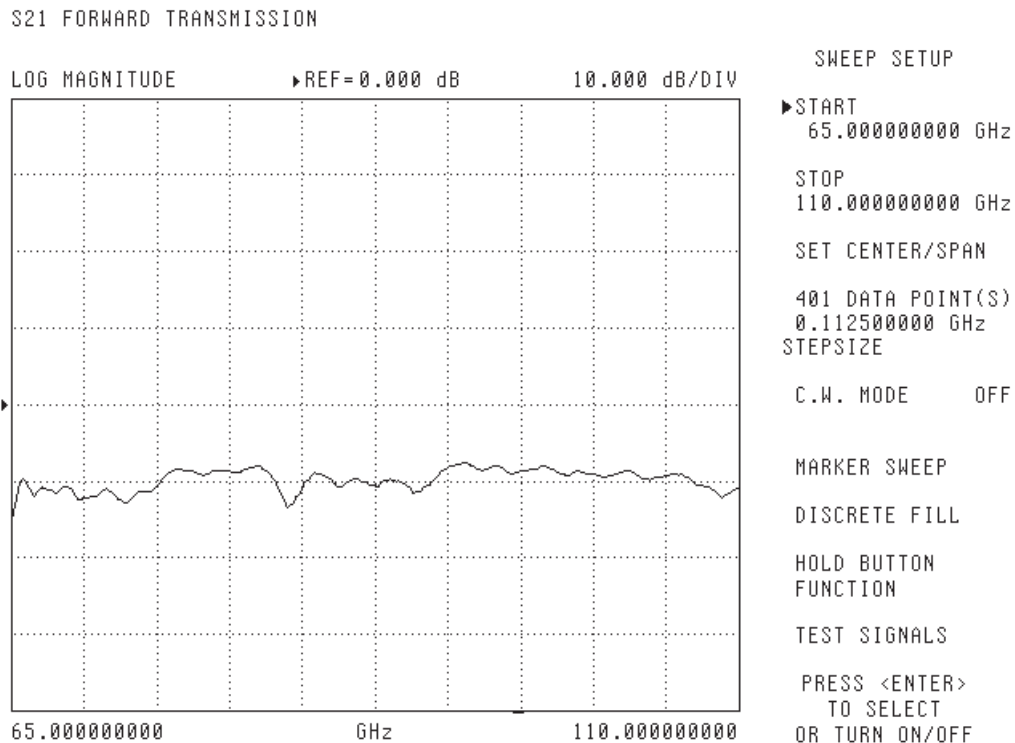

Figure 15-5. Normal S21 Display Of MM Module Uncalibrated Transmission
- Step 7.** Ensure the display is similar to Figure 15-5 (next page).
- Step 10.** Ensure the display resembles Figure 15-5.